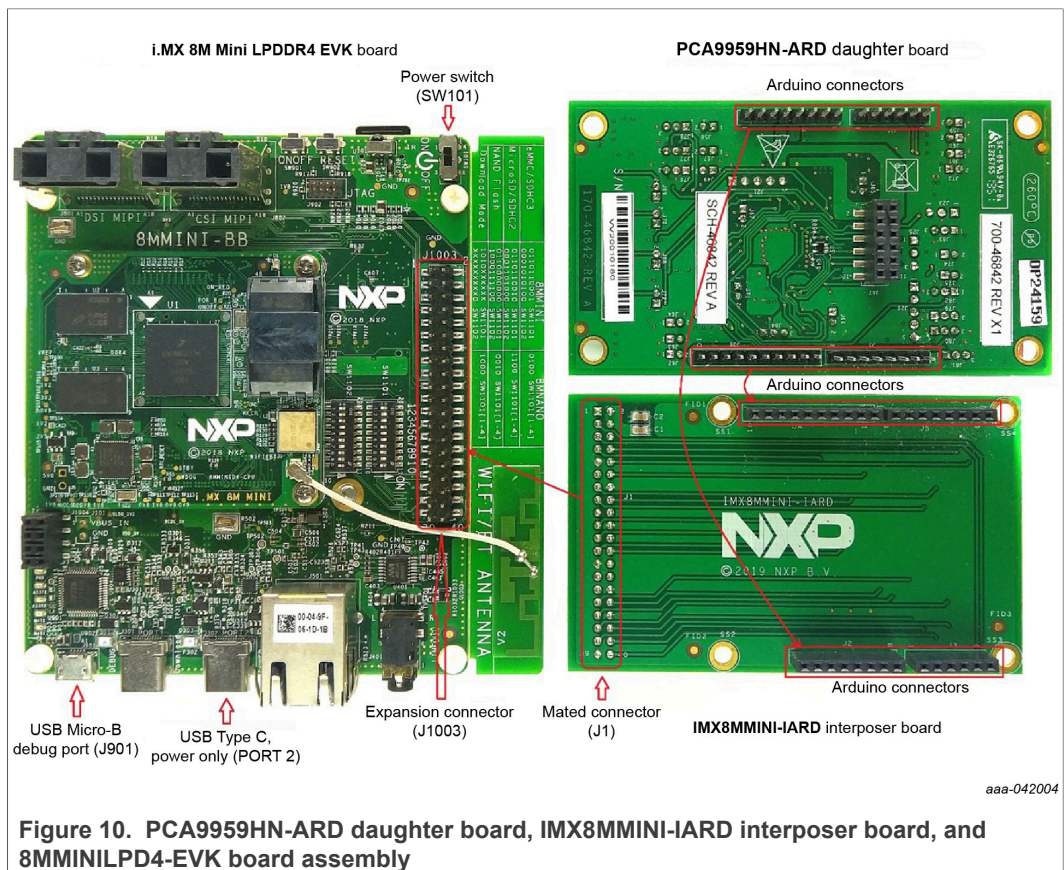
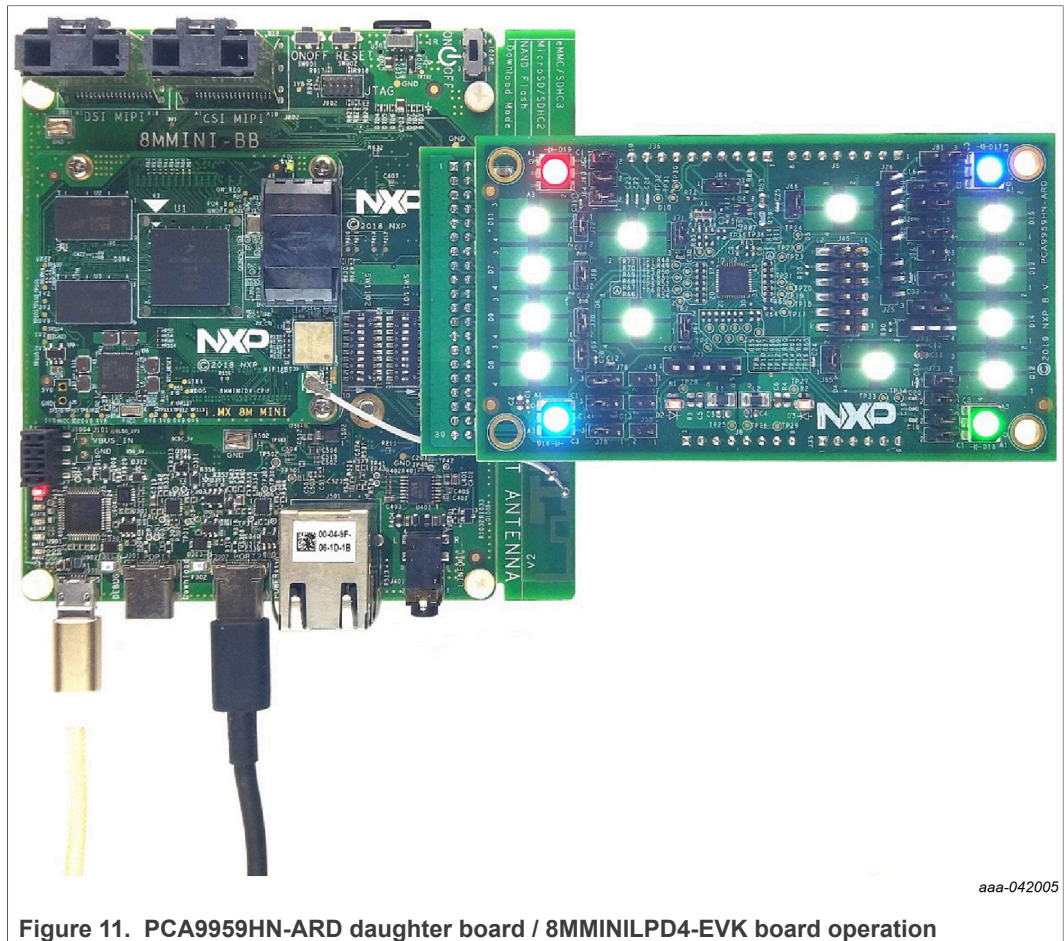

Figure 10. PCA9959HN-ARD daughter board, IMX8MMINI-IARD interposer board, and 8MMINI-LP4-EVK board assembly
Figure 11. PCA9959HN-ARD daughter board / 8MMINILPD4-EVK board operation
Figure 10 shows how these three boards are connected. This configuration consists of:
To power up the EVK, an USB-C type cable connected to PORT 2 of the EVK is used. The power switch SW101 on the EVK board must be set to ON position to power up the setup. Data communication is achieved by routing a separate USB (Micro-B type) cable from a USB port on the PC to debug port (J901) on the EVK (see Figure 10 and Figure 11).
2. Attach IMX8MMINI-IARD connector J1 (located on the bottom of the board) into J1003 expansion board located on the top side of i.MX 8M Mini LPDDR4 EVK (see Figure 10).